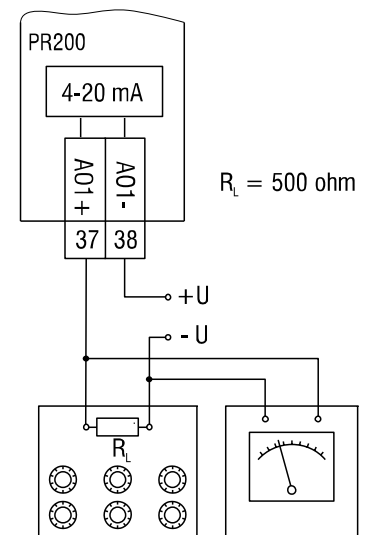

Fig. E.4
1. Connect an auxiliary voltage source, a measuring device of resolution 0.001 V and a reference resistance box of accuracy class at least 0.05 to the output (Fig. E.4).